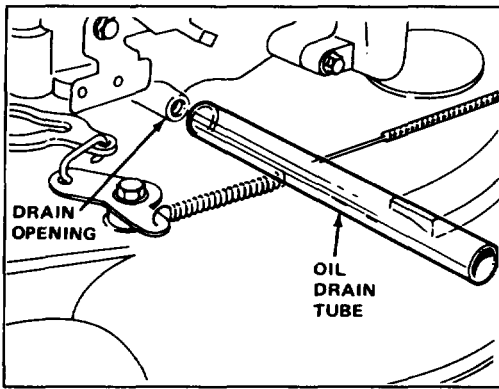

Figure 20
3. Raise left side of mower at least 12 inches (Fig. 20). Remove drain plug using a 14mm or 9/16" wrench. Place a drain pan at left side of mower.